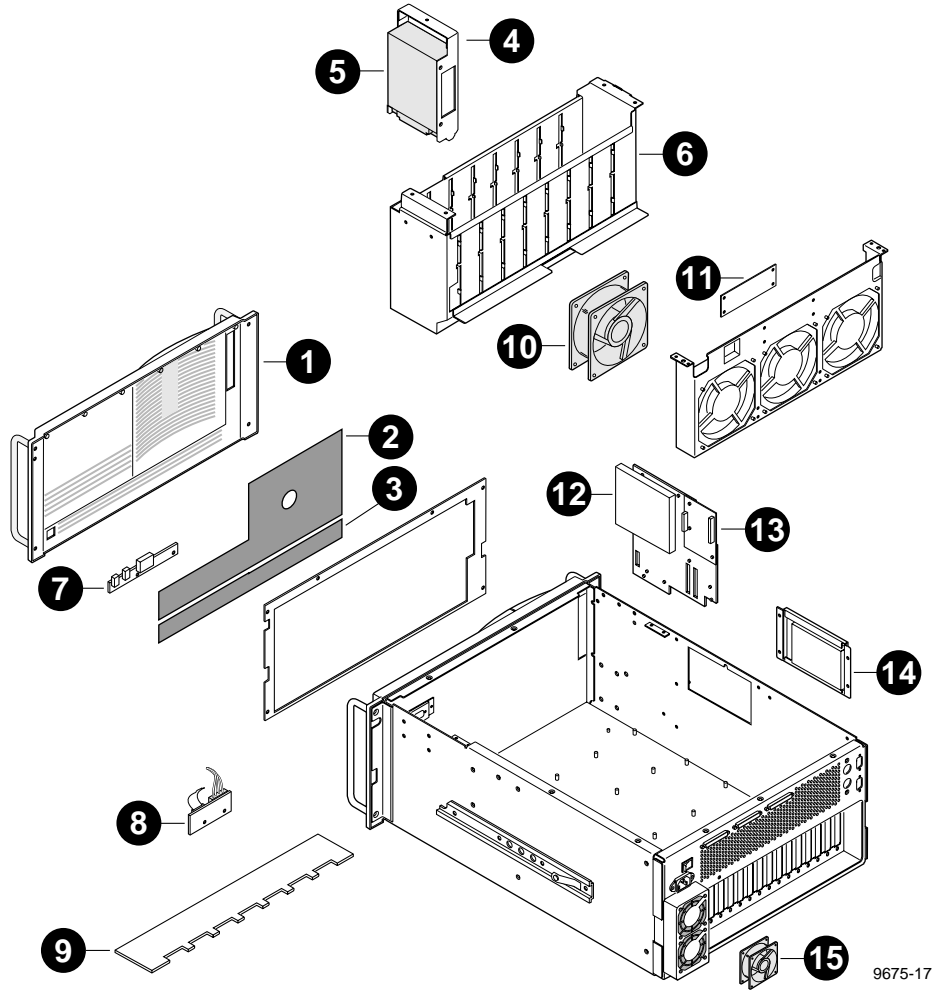
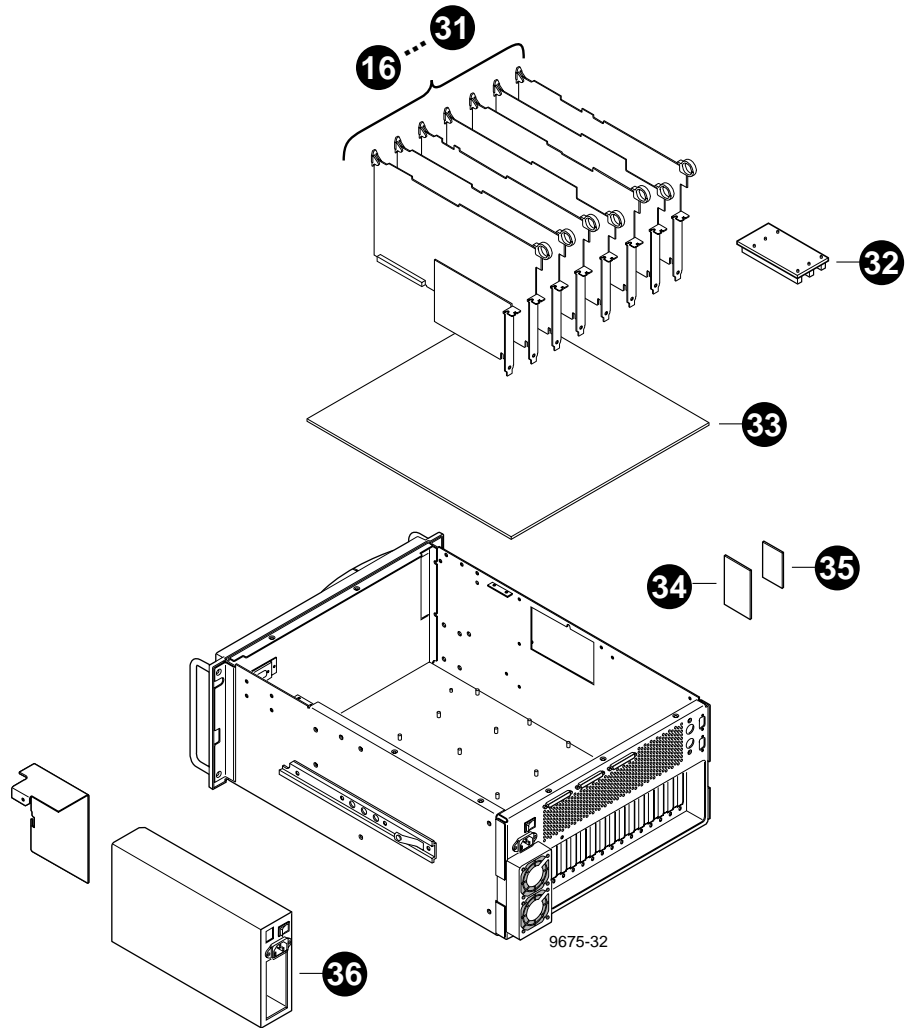
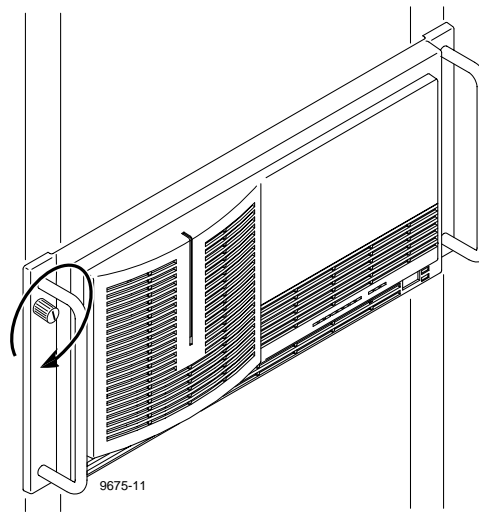
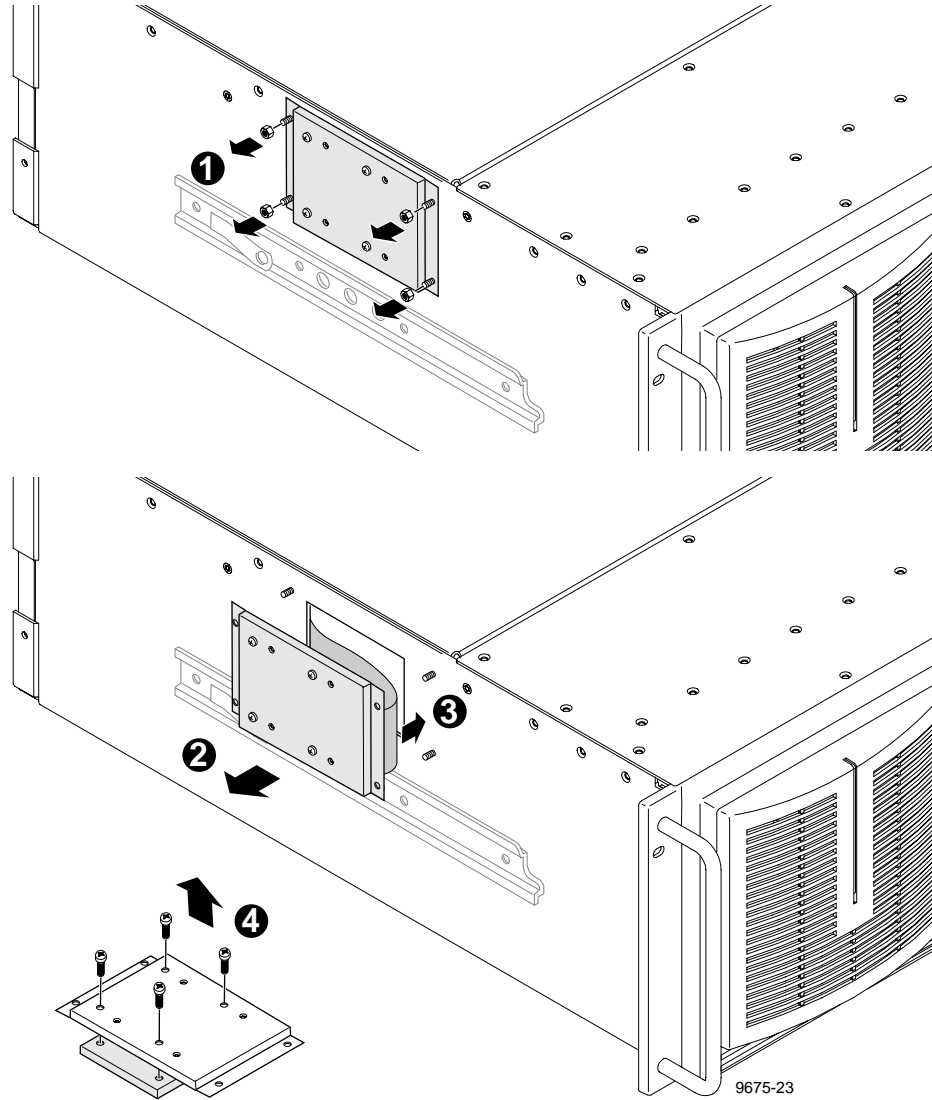

Figure 6-1. PDR200 Replaceable Parts Locations (1 of 2)
Figure 6-2. PDR200 Replaceable Parts Locations (2 of 2)
Figure 6-3. PDR200 Rack Retaining Screw
Figure 6-8. Removal of the System Drive
Table 6-1 lists all the replaceable parts (also called Field Replaceable Units or FRUs) for the PDR200, except internal cables. Figure 6-1 and Figure 6-2, keyed to Table 6-1, show the locations of these parts. Table 6-2 lists the replaceable cables and Figure 6-3 shows their locations. Note that you may not have all the boards or all eight media hard disk drives, or the PAC. Also note that board locations may vary.
3. Loosen the retaining screw which secures the chassis in the rack (Figure 6-3).
3. Use the retaining screw to secure the chassis to the rack (Figure 6-3).
2. Loosen the front panel retaining thumb screw which secures the chassis in the rack (Figure 6-3, page 6-6) and slide the chassis forward enough to access the screws which secure both the handles to the front panel and the front panel to the chassis. Be careful not to exert stress on any cables connected to the rear panel.
5. Slide the PDR200 into the chassis and tighten the retaining screw (Figure 6-3, page 6-6).
2. Loosen the chassis rack retaining screw (Figure 6-3, page 6-6) and slide the chassis out of the rack far enough to access the system drive bracket on the left side as facing the chassis. See Figure 6-8.
3. Use the 11/32-inch nutdriver to remove the four nuts which secure the system drive bracket to the side of the chassis (1 in Figure 6-8).
4. Carefully move the bracket far enough away from the chassis to access the cable connector on the drive (2 in Figure 6-8).
5. Disconnect the drive cable and place the drive on a flat, level, static-proof surface with the bracket up (3 in Figure 6-8).
6. Use the medium Phillips screwdriver to remove the four screws which secure the drive to the bracket (4 in Figure 6-8).
4. Position the drive and bracket at the slot in the side of the chassis and connect the drive cable to the drive (Figure 6-8).
6. Slide the chassis back into the rack and secure with the retaining screw (Figure 6-3, page 6-6).
2. Loosen the chassis rack retaining screw (Figure 6-3, page 6-6) and, taking care to not stress rear panel cables, slide the chassis out of the rack far enough to access the front cover mounting screws.
5. Slide the chassis back in the chassis and tighten the rack retaining screw (Figure 6-3, page 6-6).